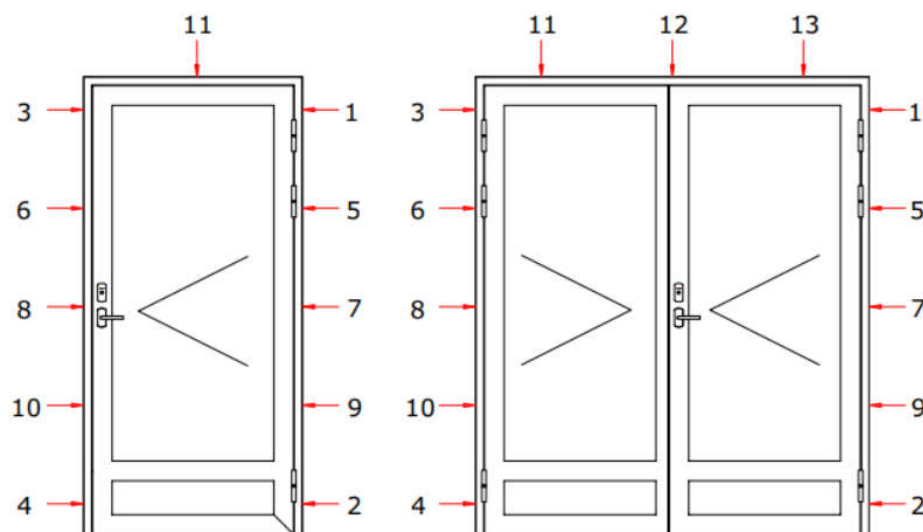

Figure 2 Sequence of fixing points for doors
5. Level the hinge side of the frame and drill the first fixing point through frame. Correct sequence of the fixing points is shown in the figure 2.
7. Fix the frame with remaining fixing points (Figure 2). Support blocks must be added next to every fixing point. Tighten the screws.